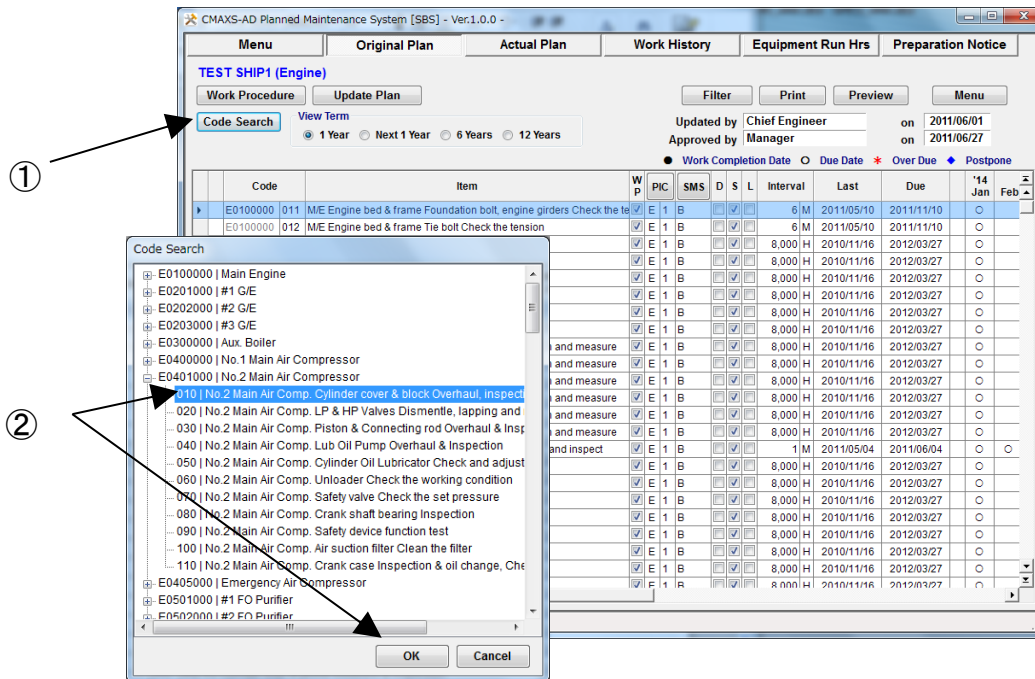

Fig.16-1 Original Plan Screen
- (1) Select [Code Search] button on the "Original Plan Screen" (Fig.16-1).
- (2) Select [+]mark of equipment to expand tree.